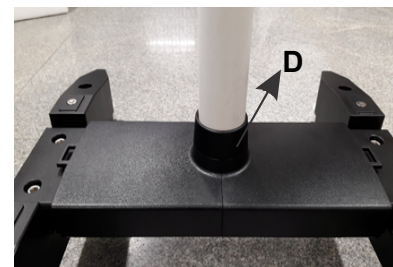

Fig. 13
7.2 Make sure that during assembly of the column ring D is fixed in place, as shown in Fig. 13.